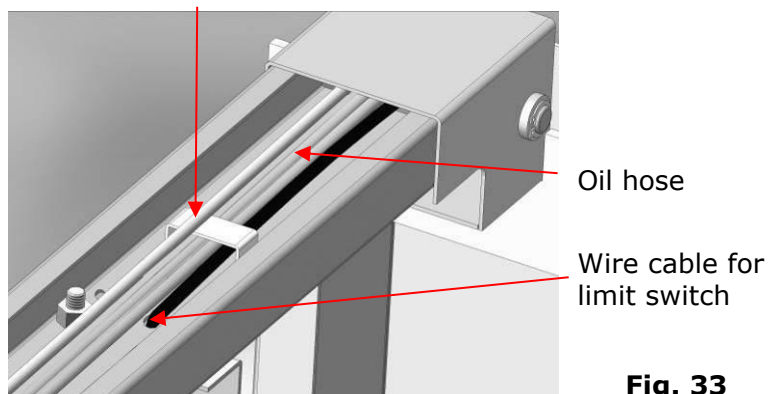

Fig. 33
2. Install safety cable, oil hose and protective cover (See Fig. 31 & Fig. 32 & Fig. 33).